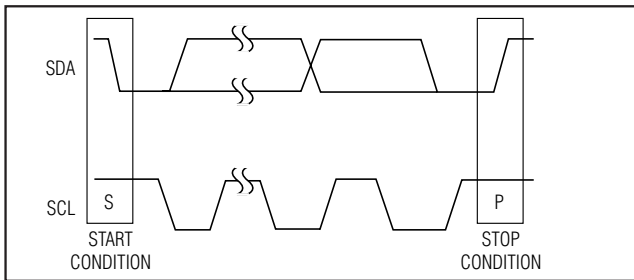
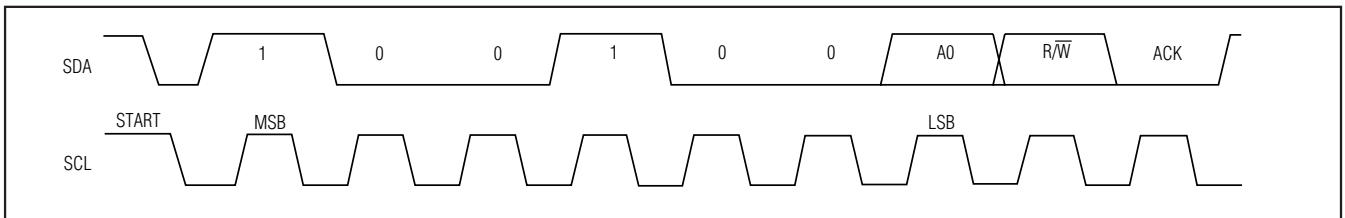

Figure 14. Start and Stop Conditions
Figure 15. Slave Address
Each transmission consists of a start condition (see Figure 14) sent by a master device, the MAX3301E/MAX3302E 7-bit slave address (determined by the state of ADD), plus an R/W bit (see Figure 15), a register address byte, one or more data bytes, and a stop condition (see Figure 14).
Both SCL and SDA assert high when the interface is not busy. A master device signals the beginning of a transmission with a start (S) condition by transitioning SDA from high to low while SCL is high. The master issues a stop (P) condition by transitioning SDA from low to high while SCL is high. The bus is then free for another transmission (see Figure 14).
A bus master initiates communication with a slave device by issuing a START condition followed by the 7-bit slave address (see Figure 15). When idle, the MAX3301E/MAX3302E wait for a START condition followed by its slave address. The LSB of the address word is the read/write (R/W) bit. R/W indicates whether the master is writing to or reading from the MAX3301E/MAX3302E (R/W = 0 selects the write condition, R/W = 1 selects the read condition). After receiving the proper address, the MAX3301E/MAX3302E issue an ACK.